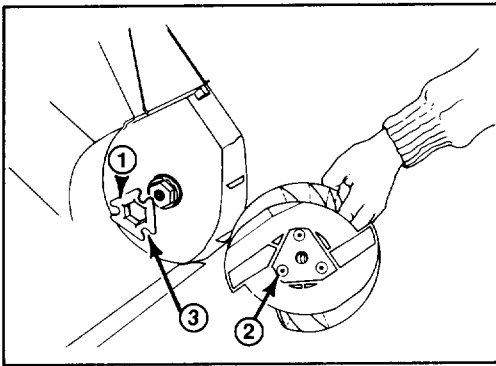

Figure 12
6. Align the left side of new rotor with coupler. The 3 bosses on the rotor end must align with the slots on the coupler (Fig. 12). Coupler must be aligned with tabs to inside. Slide right side of rotor into mounting position.